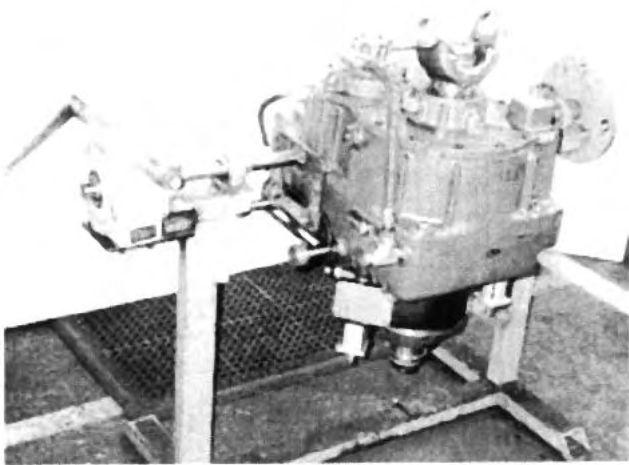

Fig. 1
3. Mount the transfer case in a suitable fixture. The fixture should be such that the transfer case can be rotated so that either the front or the rear of the case is facing upward. A transfer case mounted in a typical fixture is shown in Fig. 1.